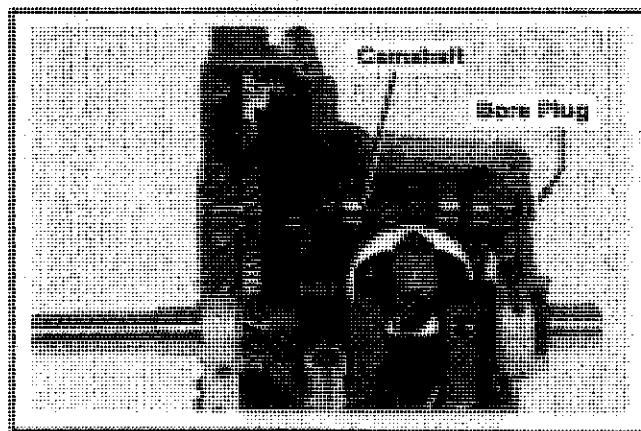

Figure 9-33. Removing The Camshaft And Camshaft Bore Plug.
1. Remove the camshaft and camshaft bore plug from the #1 crankcase side. Refer to Figure 9-33.